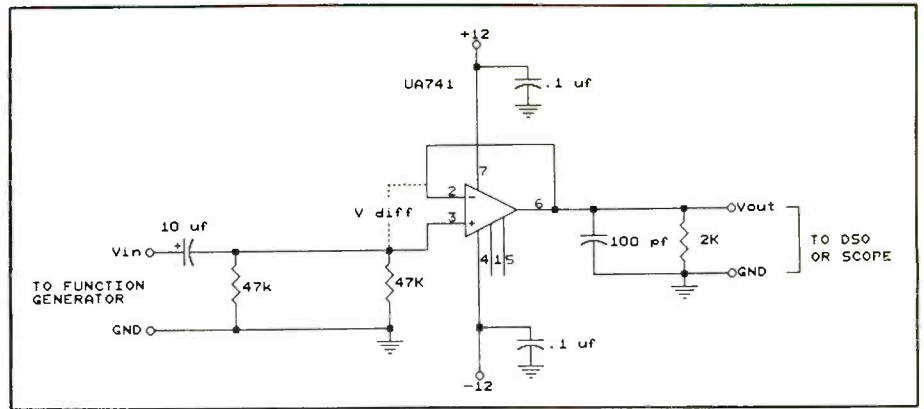
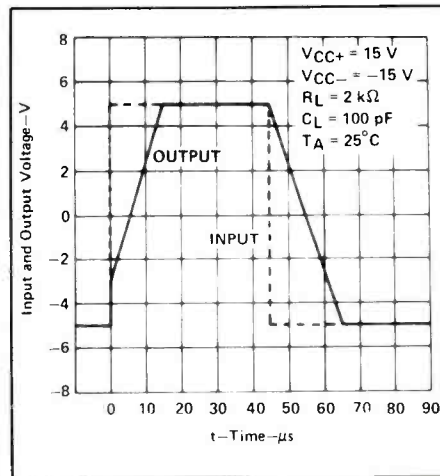

Fig. 7. A unity-gain voltage-follower.
Fig. 8. Voltage-follower large-signal pulse response. (Courtesy National Semiconductor)
Now wire together the Fig. 7 circuit. This circuit is known as a voltage follower. Voltage gain is unity (1) because Vout is the same as Vin (assuming Vdiff = 0). Use the same signals and DSO settings as above. Note the output waveform and compare it to that in Fig. 8.
- (D) Slew rate (change in output voltage divided by time in microseconds, or ΔV/μs) of this circuit \_\_\_\_\_ (μs/ΔV)